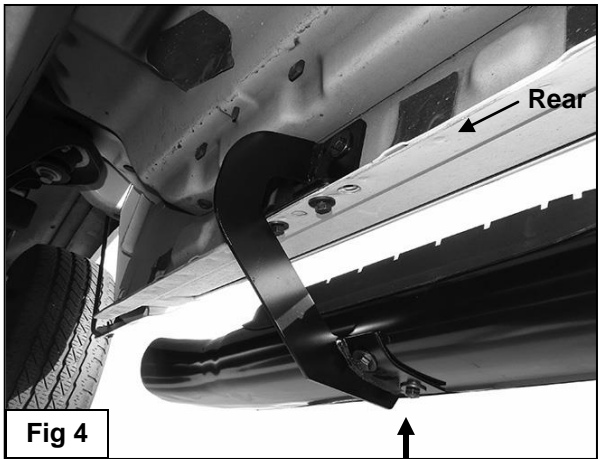

Fig 4
- Carefully position the Sidebar onto the Mounting Brackets. Attach Sidebar to the Brackets with the included (4) 8mm x 25mm Hex Bolts, (4) 8mm Lock Washers and (4) 8mm STD Flat Washers, **(Figure 4).** Do not tighten hardware at this time.